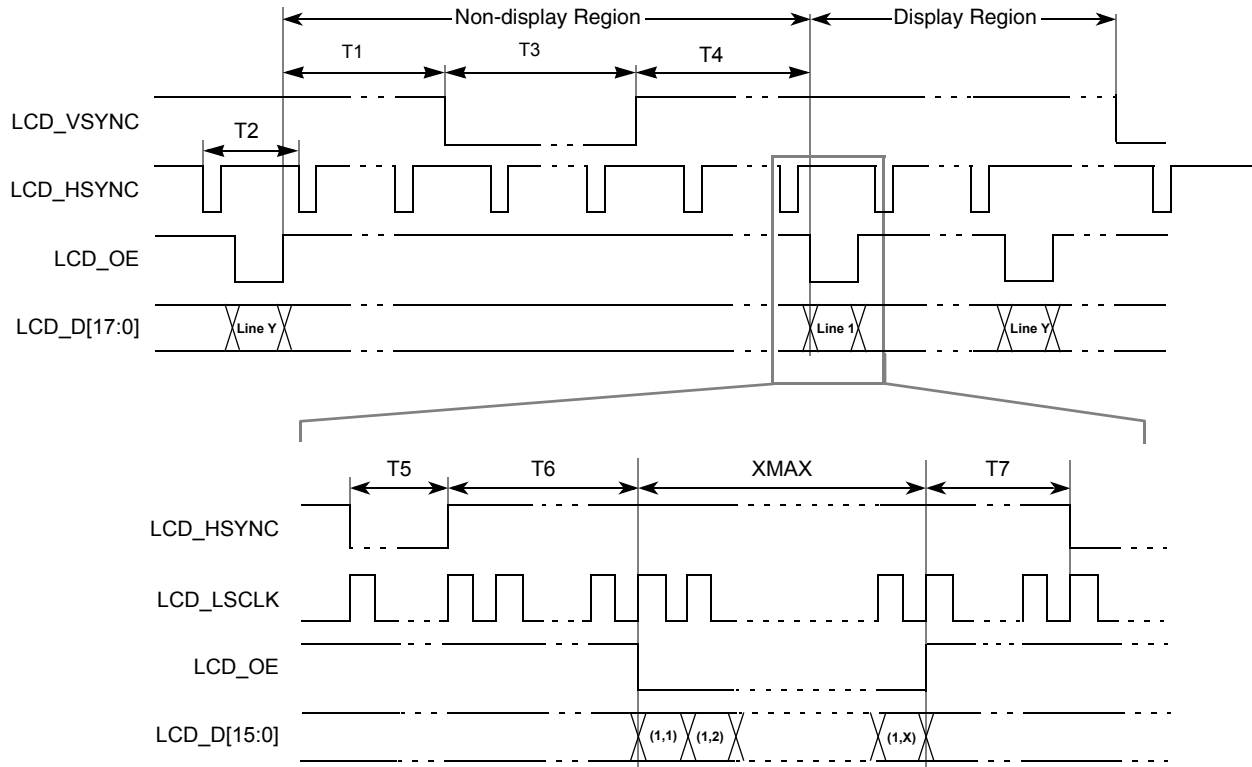

Figure 20. 4/8/12/16/18 Bit/Pixel TFT Color Mode Panel Timing
**Note:** Ts is the LCD\_LSCLK period. LCD\_VSYNC, LCD\_HSYNC, and LCD\_OE can be programmed as active high or active low. In Figure 20, all 3 signals are active low. LCD\_LSCLK can be programmed to be deactivated during the LCD\_VSYNC pulse or the LCD\_OE deasserted period. In Figure 20, LCD\_LSCLK is always active.